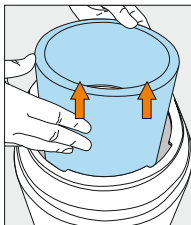
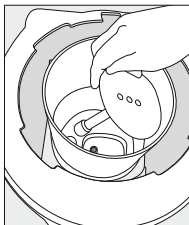

Figure 33
Figure 34
4. Using fingers of both hands, loosen and remove the insulation jacket covering the plastic reservoir from the cooler opening (Figure 33). (Note: On Hot & Cold models, after step 4 unscrew the round plastic one piece baffle) (Figure 34)